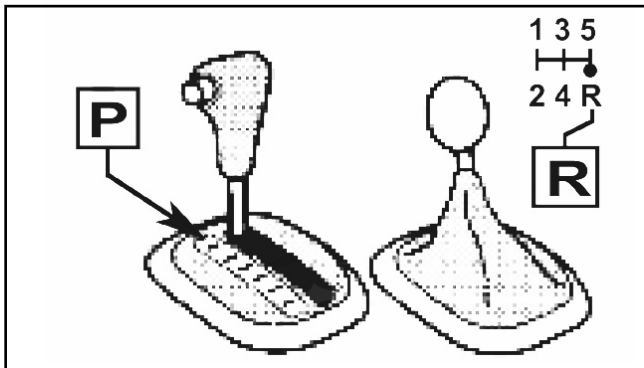

Figure 2
b. Put transmission in "P" (automatic) or reverse (manual) lift vehicle. Figure 2.